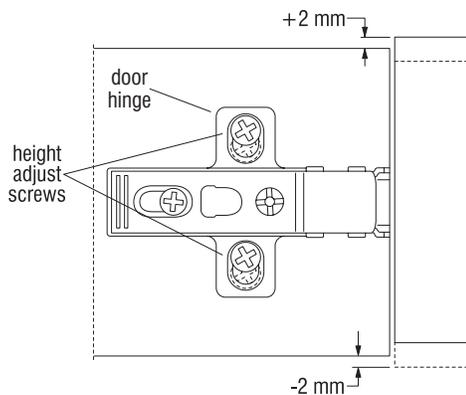

Figure 10 - Door Height Adjustment
1. For **door height adjustment** of +/-2 mm, loosen the two height adjust screws on each hinge and move door up or down. Re-tighten screws (Figure 10).